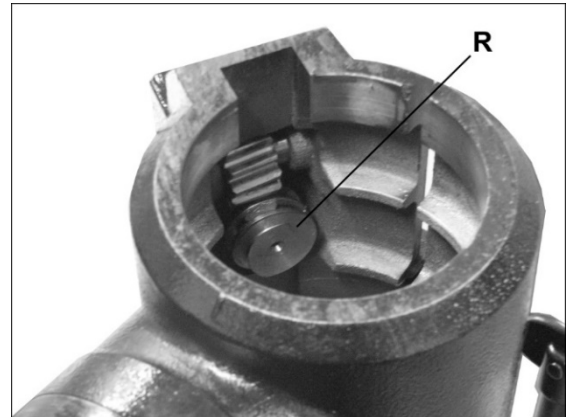

Figure 6-2
4. Insert shaft of worm drive (R, Figure 6-2) through table bracket hole, while meshing worm drive with the preinstalled gear.